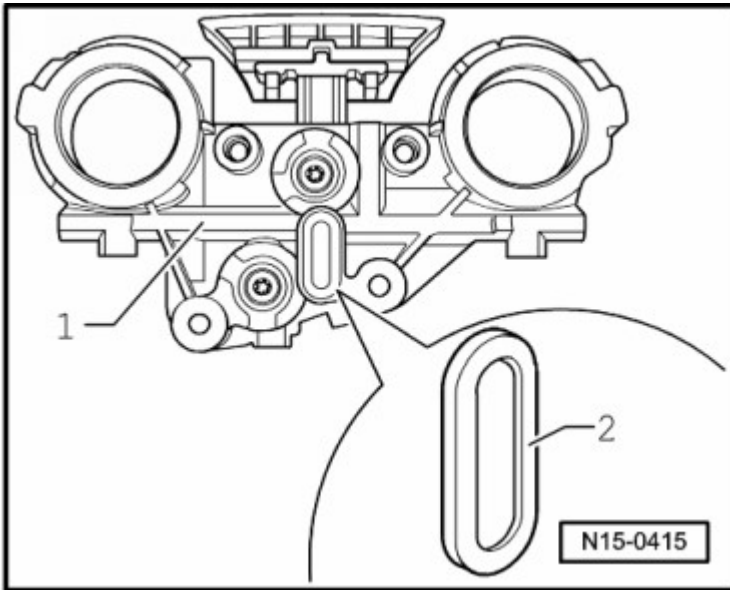

Fig. 17: Backside Of Control Housing & Screen
- Check control housing strainer for soiling before installation, refer to **Fig. 17**.